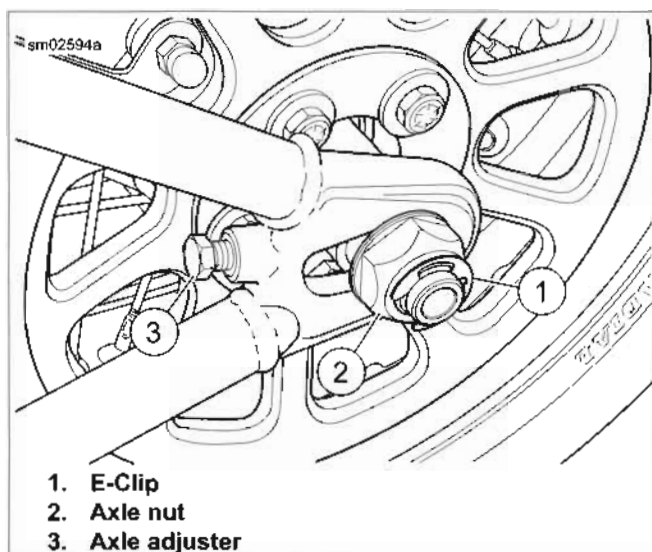

Figure 2-8. Axle Adjusters
8. **All but FXSB:** See Figure 2-8. Remove e-clip (1). Loosen rear axle nut (2).